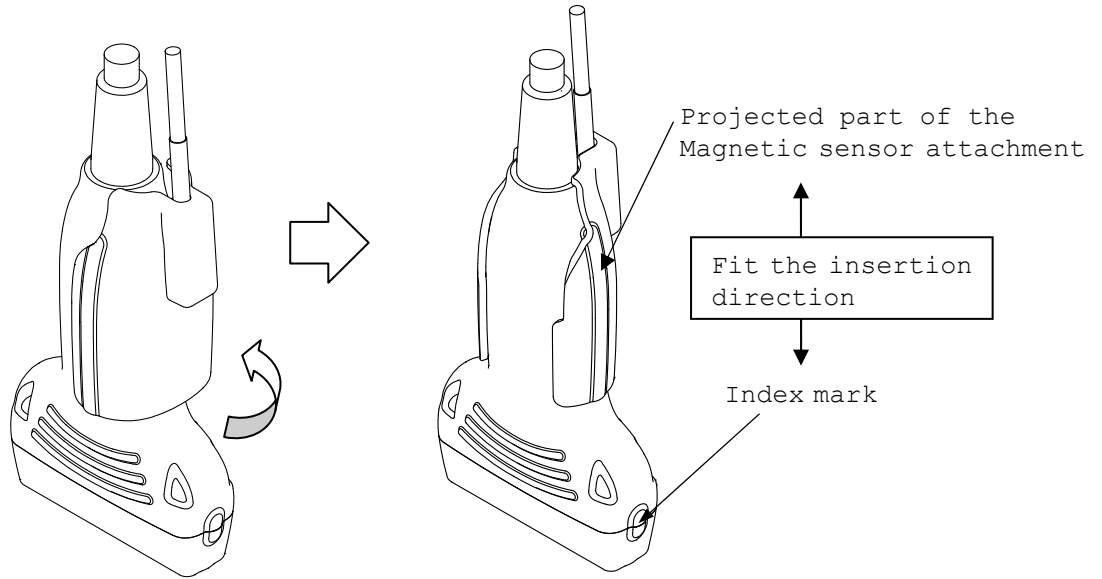

Fig. 9 How to attach the Magnetic sensor attachment
- 2) Place the magnetic sensor attachment on the probe as shown in Fig. 9. Fit the projected part of the magnetic sensor attachment in the index mark of the probe.